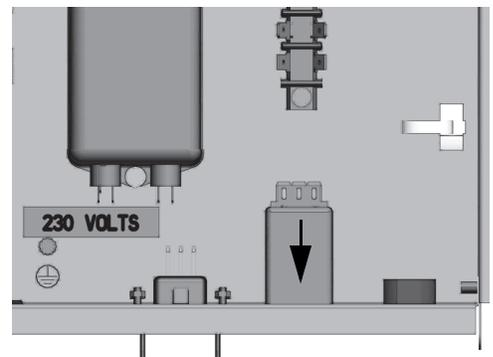

Figure 64.
10. Disconnect the wires connected to power cord entry switch and pull it outward direction as shown in Figure 64.